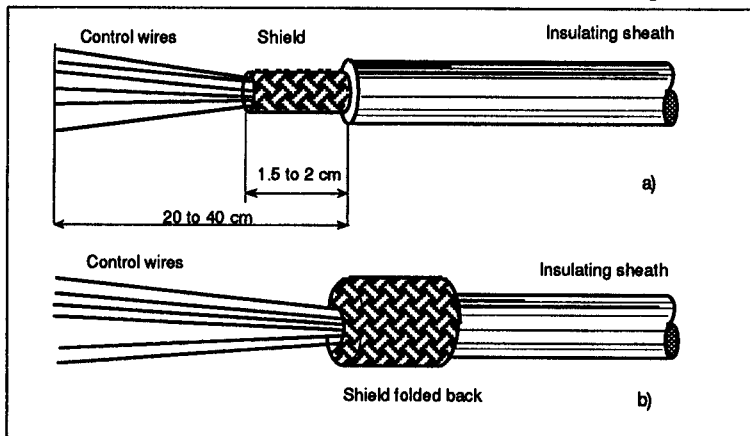

Figure 3-7 Control cable stripping
- Strip the shielded cable as shown in figure 3-7,a.
- Fold back the shield on the insulating sheath (figure 3-7,b)